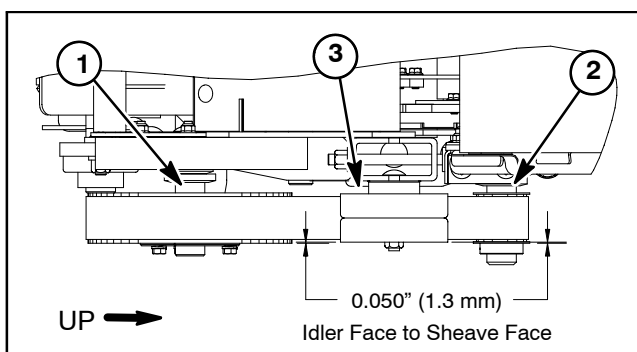

Figure 31
**IMPORTANT:** After adjusting belt tension, check that distance from idler pulley face to the faces of the drive and driven pulleys is correct (Figs. 31 and 32). This distance is necessary to ensure that idler pulley is correctly aligned to drive belts. If necessary, re-adjust positions of drive and driven pulleys to allow correct distance.
13. Secure side shield (item 8), angle plate (item 7) and side skirt plate (item 9) to each side of machine with two (2) flange nuts and carriage screws.